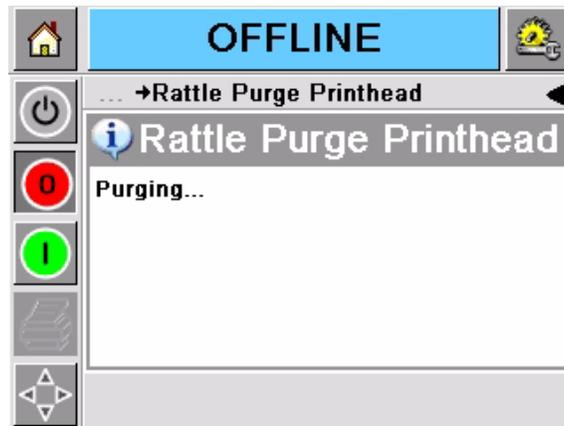

Figure 4-10: Purging
- 5 Purging operation begins (Figure 4-10 on page 4-13).